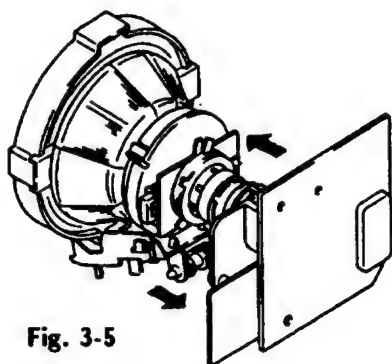

Fig. 3-5
(See Figures 3-5 through 3-7.)
5. Move the deflection yoke forward and adjust so that entire screen is red. (See Figure 3-5.)